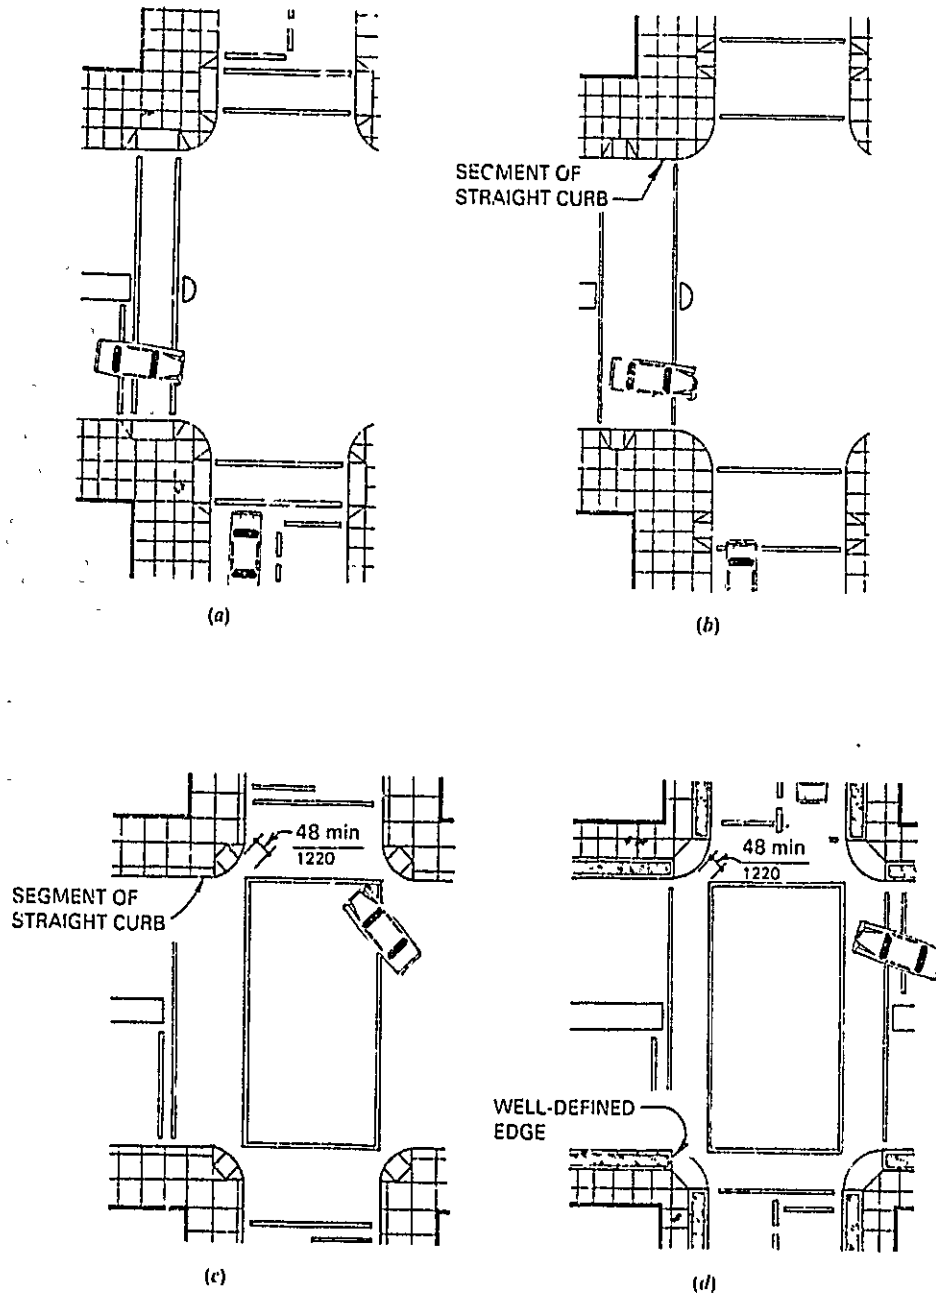

Fig. 15
4.7.9 Location at Marked Crossings. Curb ramps at marked crossings shall be wholly contained within the markings, excluding any flared sides (see Fig. 15).
4.7.10 Diagonal Curb Ramps. If diagonal (or corner-type) curb ramps have returned curbs or other well-defined edges, such edges shall be parallel to the direction of pedestrian flow. The bottom of diagonal curb ramps shall have 48-in (1220-mm) minimum clear space as shown in Fig. 15(c) and (d). If diagonal curb ramps are provided at marked crossings, the 48-in (1220-mm) clear space shall be within the markings (see Fig. 15(c) and (d)). If diagonal curb ramps have flared sides, they shall also have a segment of straight curb at least 24 in (610 mm) long located on each side of the curb ramp and within the marked crossing (see Fig. 15(e)).
4.7.11 Islands. Any raised islands in crossings shall be cut through level with the street or have curb ramps at both sides and a level area at least 48 in (1220 mm) long in the part of the island intersected by the crossings (see Fig. 15(a) and (b)).